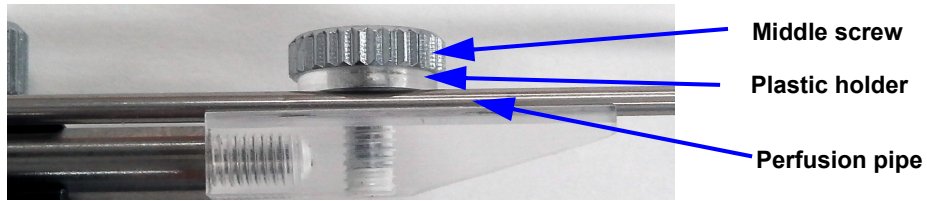
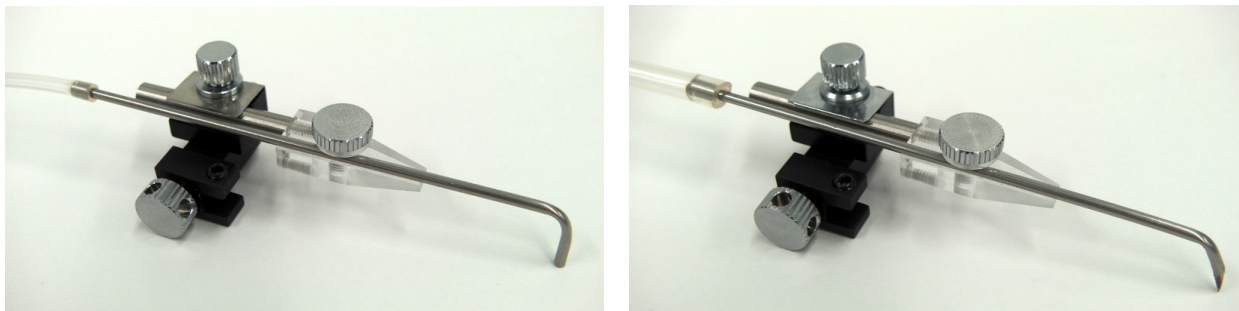

Figure 10. Location of Inlet (or Outlet) pipe in the Perfusion Pipe Holder.
Figure 11. Inlet (left) and Outlet (right) Pipes installed to the Perfusion Pipe Holders.
2. Loosen the middle screw and insert a pipe under the plastic holder (Figure 10). Tighten the middle screw so that the pipe is not moved. Figure 11 shows the Inlet and Outlet Pipes installed to the Perfusion Pipe Holders.